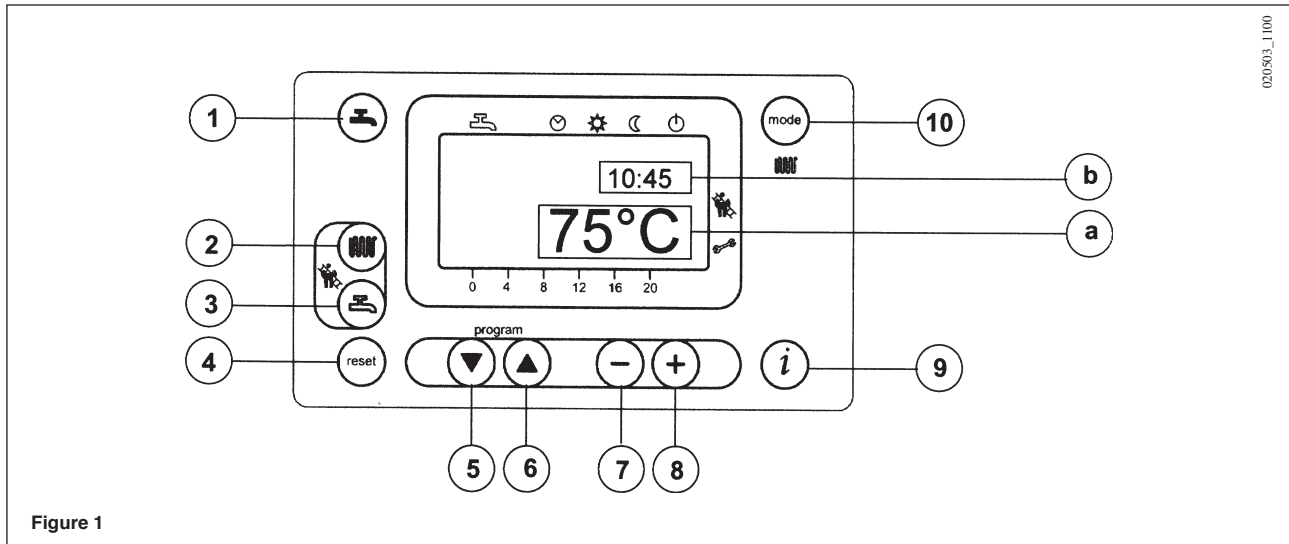

Figure 1
- Press the  key (2-figure 1) to set the central heating water temperature;
- Press either of the   keys (1 or 10 - figure 1) to save and return to the main menu.
N.B – With the outdoor sensor connected, the  key (2 - figure 1) can be used to shift the central heating curve. Press the   keys to decrease or increase the room temperature in the premises to be heated.
- Press the  key (3-figure 1) to set the maximum domestic hot water temperature;
The fault warnings appear on the main display (figure 1 a) together with the  symbol (Figure 4).
Fault warnings appear on the secondary display (figure 1 b) alternating with the time, both of them flashing (figure 4.1). It is not possible to reset malfunction warnings which appear on the secondary display as the cause of the alarm has first to be removed.